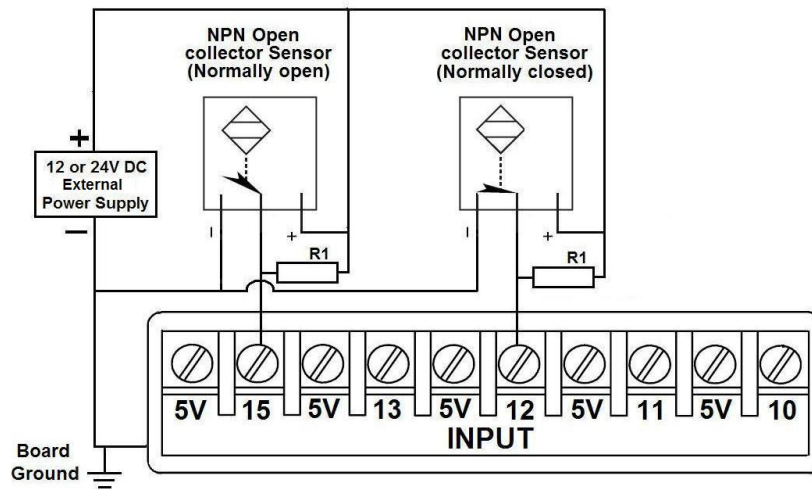

Fig. 8 Wiring diagram to connect NPN open collector proximity sensors.
**For Configuring the *Charge Pump* in *Mach X*:** Use the dialog *Config / Ports and pins / Output Signals*. Enable the *Charge Pump* output and configures it as is shown in the Fig. 8 Next, press the *apply* button.